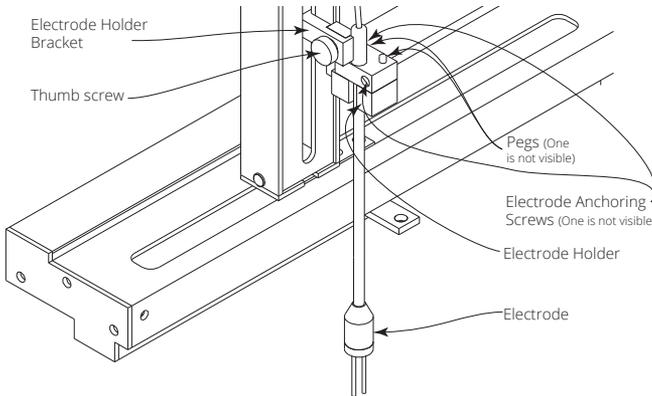

Fig. 10 — Installing the REMS electrode
- To install the electrode holder, slide it fully into place on the electrode holder bracket and secure it with the supplied thumb screw. Fig. 10 shows the location where the electrode holder is installed on the vertical arm of the REMS.